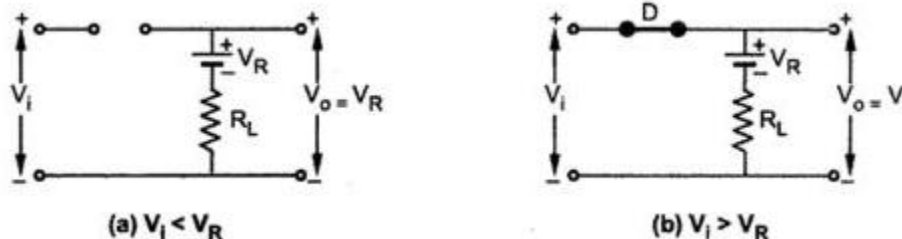

Fig. 1.55 Operation of Clipping below V_R
- When V_i is less than V_R , the diode is reversed biased and circuit becomes open. The output voltage is equal to V_R as no current flows in the circuit and is shown in the Fig. 1.55 (a).
- When V_i is greater than V_R , the diode D becomes forward biased and circuit becomes as shown in the Fig. 1.55 (b).